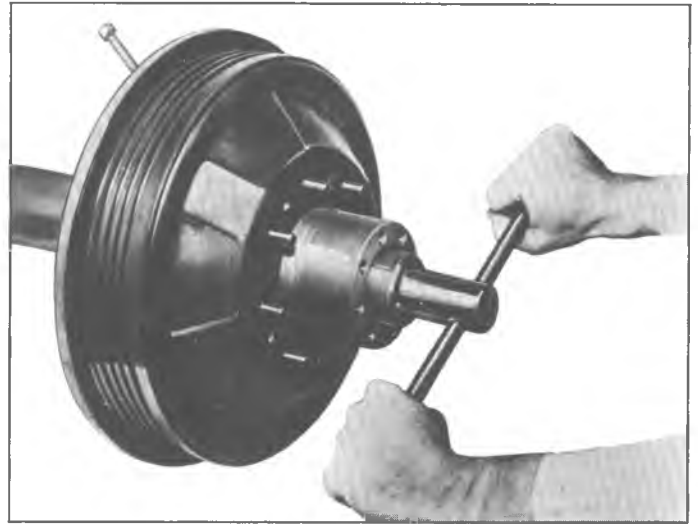

Fig. 65—Removing Lock Nut—Typical
2. Disengage tang of retainer from slot or flat of locknut, then remove locknut from housing tube, using J-2222, as shown in figure 65.